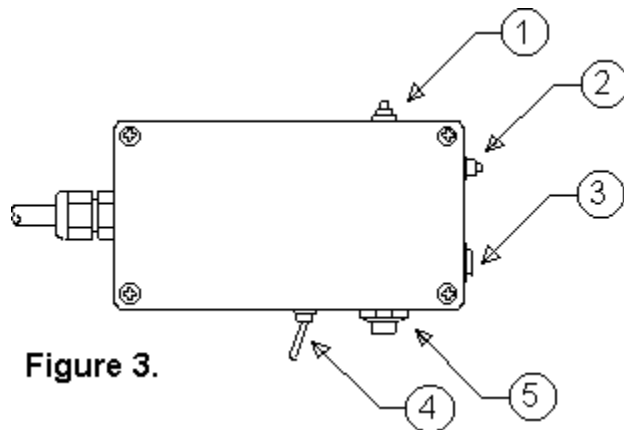

Figure 3.
hand control (see Fig.3) contains the following controls and components: (1) A microphone activation switch. Depressing the switch will turn on the microphone (3). This switch allows the operator to use the microphone without any annoying feedback when moving too close to the AGC-3. For best results, do not depress this switch unless the microphone is used. (2) An air gate reset switch. This switch will raise the gate after the gate has dropped and the riders have moved away. (4) An electronic horn switch. This switch will activate an electronic horn for rider recalls. (5) A start switch. This switch will start the gate controller and step through the voice commands and the lights/horn sequence.
2. If the gate is down, raise the gate by using the air gate reset switch (item 2 in figure 3). If using an up/down gate, it is sufficient to hold the switch for about one second. When an up only gate is used, maintain the switch until the gate is fully raised. (Also see section 2.1). **Caution:** Ensure that the gate is clear of riders before raising.
3. Use the start switch (item 5 in figure 3) to activate the voice commands. Set the volume control for the best quality voice.
4. If necessary, use the microphone and microphone activation switch (items 1 and 3 in figure 3) to direct the riders to the gate.
6. If there is a false start, use the horn switch (item 4 in figure 3) to recall the riders.
5. *Feedback when using the microphone:* If there is feedback when using the microphone, try to move away from the speakers. Use the microphone switch (item 1 in figure 3) only when talking.